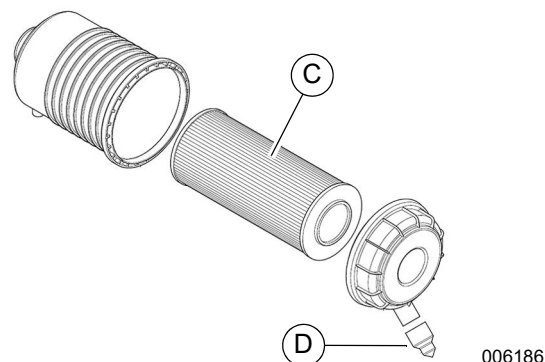

Figure 5-23. Remove Air Filter Element—2.2L Engine
2. See Figure 5-23. Remove air filter element (C) and discard.